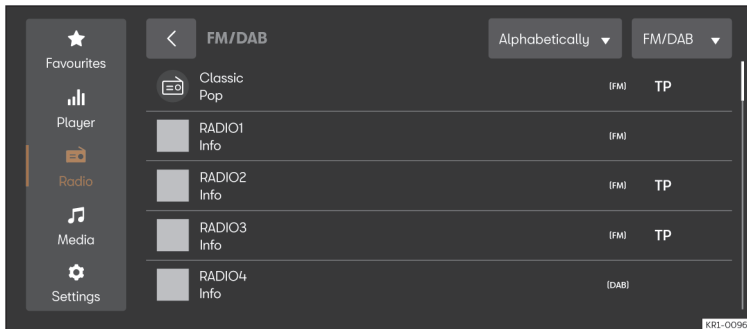

Fig. 160 Schematic diagram: Radio view.
- Press **HOME** > >>> **Fig. 160**.